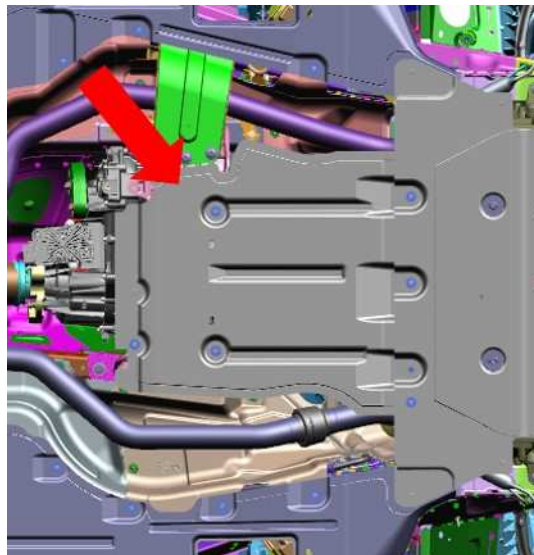

Fig. 11
3. Remove the transmission belly pan (Fig. 11) . Refer to the detailed service procedures available in DealerConnect> Service Library under: Service Info> 13 Frame and Bumpers / Under Body Protection / Belly Pan / Removal.
10. Install the transmission belly pan (Fig. 11) . Refer to the detailed service procedures available in DealerConnect> Service Library under: Service Info> 13 Frame and Bumpers / Under Body Protection / Belly Pan / Installation.